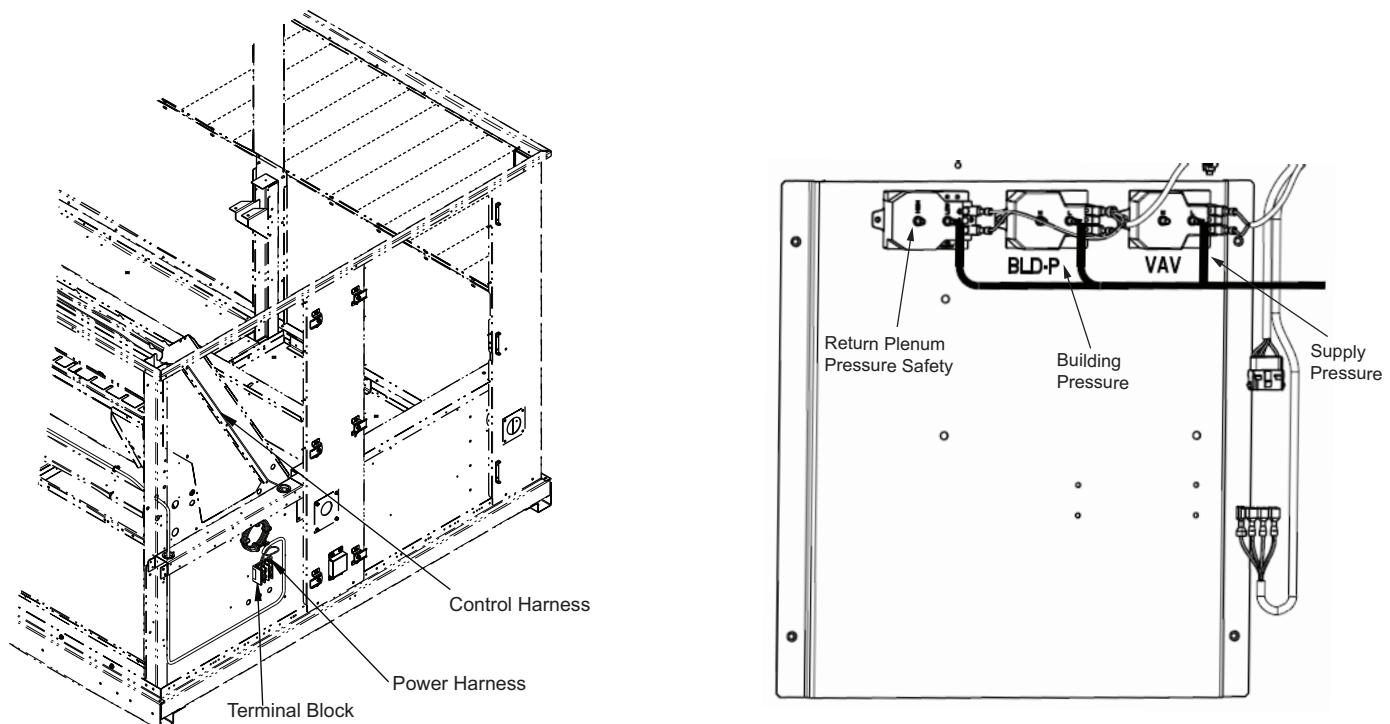

Fig. 4 — Auxiliary Control Box for 48/50K Units
9. **NOTE: The following statement is valid for A-series only.** Route the control wiring from the module closest to the auxiliary control panel to ECB-1. Plug the control harness plug with 500-ohm resistor on Terminal J9, pins 1 and 2 on the ECB-1 control board. See Fig. 12 for control wiring. Route the VFD (variable frequency drive) control wiring behind each support panel that separates each exhaust module and plug the control wiring into the VFD of the next module(s). For K series units the VFD control wiring should be plugged into the control harness. See Fig. 4 for auxiliary control details.
15. Variable air volume (VAV) units and units with power exhaust with building pressure (BP) control include, pressure transducers for measuring the duct supply pressure (SP) or building pressure (BP) that require field supplied pneumatic tubing and pressure pickup ports. The pressure transducers are in an auxiliary control box, accessible through the filter access door. See Fig. 2 and "Auxiliary Control Panel Opening" in Fig. 15 on page 10 for the location of auxiliary control box, located behind filter access door. See Fig. 4 for pressure transducer locations.
15. Variable air volume (VAV) units and units with power exhaust with building pressure (BP) control include, pressure transducers for measuring the duct supply pressure (SP) or building pressure (BP) that require field supplied pneumatic tubing and pressure pickup ports. The pressure transducers are in an auxiliary control box, accessible through the filter access door. Refer to Fig. 2 and "Auxiliary Control Panel Opening" in Fig. 15 for the location of auxiliary control box, located behind filter access door. Refer to Fig. 4 for pressure transducer locations.